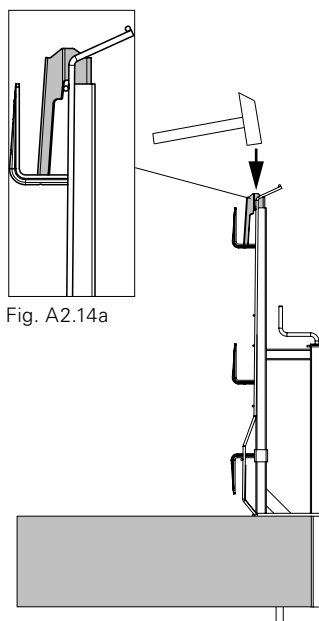

Fig. A2.14
2. Secure Clamping Holder GH-2 with a hammer. (Fig. A2.14)
3. Assembly with one Side Mesh Barrier PMB. (Fig. A2.14/A2.14a)